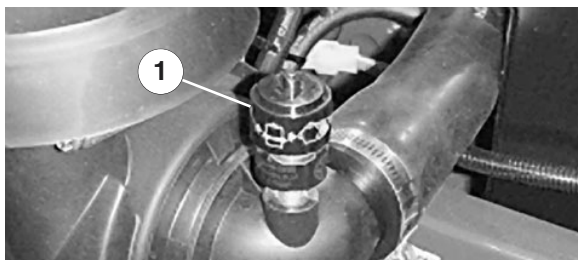

Figure 20
2. Service the air cleaner filters when the air cleaner indicator (Fig. 20) shows red or every 400 hours (more frequently in extreme dusty or dirty conditions). Do not over service the air filter.
7. Reset the indicator (Fig. 20) if it shows red.